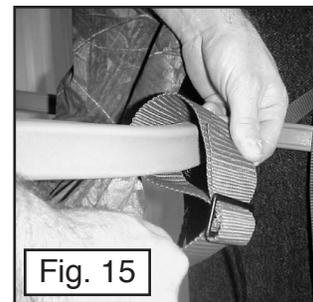

Fig. 15
B. With your safety harness attached to the tree above the Cobra or Bushmaster Seat, reach down and release the heel cords on the platform and slide your feet out of the straps. Position your safety harness comfortably and carefully sit down. The Cobra Seat will provide maximum comfort when the seat pad is near horizontal rather than tipped down in the front. The Cobra XLS Seat height can be easily raised (for bow hunting) or lowered (for gun hunting) by adjusting the metal 3-bar slides under the seat cushion shown in **Figure 15**. (However, the Bushmaster XLS Seat has little or no adjustment).
The seat height can be adjusted by means of the 3-bar slides on the seat straps. This adjustment should be made while on the ground and both sides must be adjusted equally so the seat is level side to side. (See **Figure 15** in earlier sections of these instructions for details).